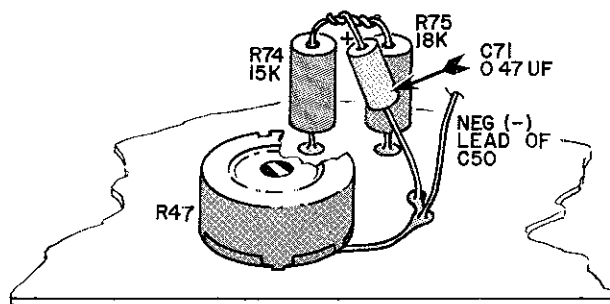

Fig. 3 - Decoupling Network
2. Mount R74 (15K ohms $\pm 10\%$, 1/2 watt) and R75 (18K ohms $\pm 10\%$, 1/2 watt) in the holes from which R46 was removed. See Figure 3.
4. Solder the negative (-) lead of C71 into the unused hole next to the negative lead of C50, as shown in Figure 3.